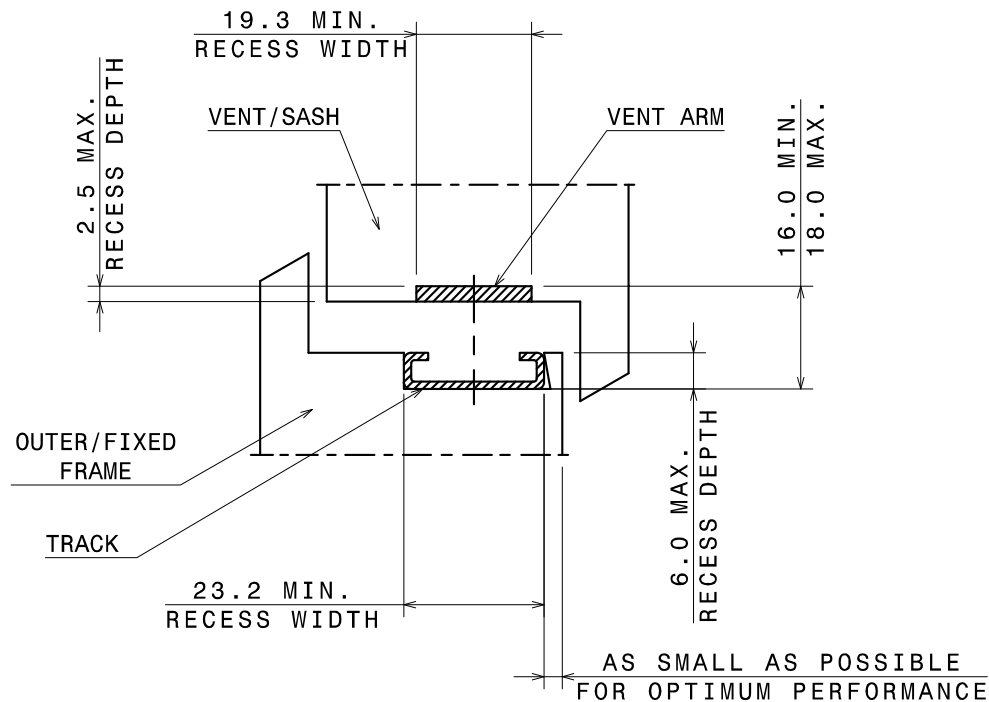

Fig. 2
2.1.10 The vent and outer frame location recess or up stand, if any, must be as shown in Fig. 2.